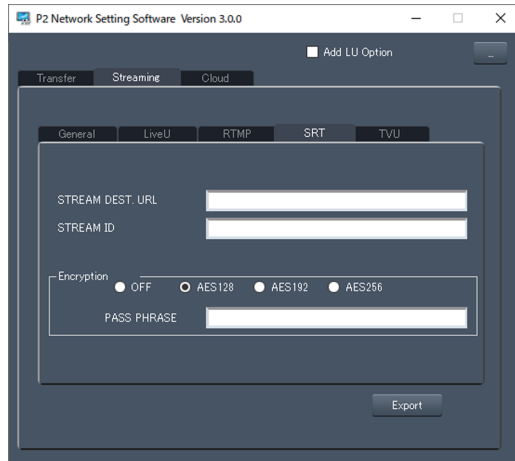

Fig. 1
- 1** Start the P2 Network Setting software. (Fig. 1)